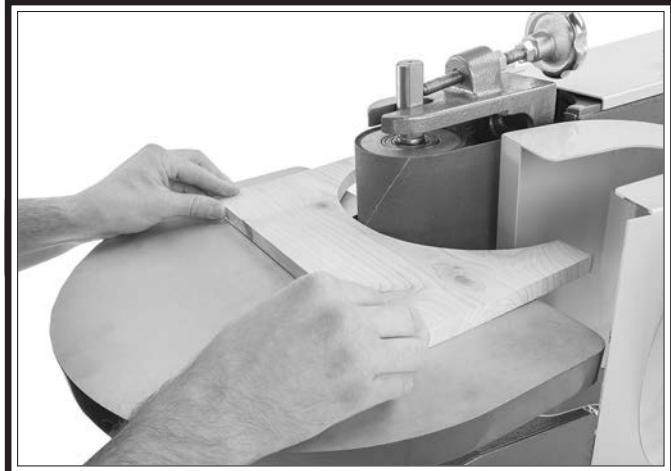

Figure 49. Typical contour sanding operation.
4. While securely holding workpiece, slowly feed workpiece into moving belt with light, even pressure. Maintain control of workpiece, as shown in **Figure 49**. DO NOT force workpiece against belt.